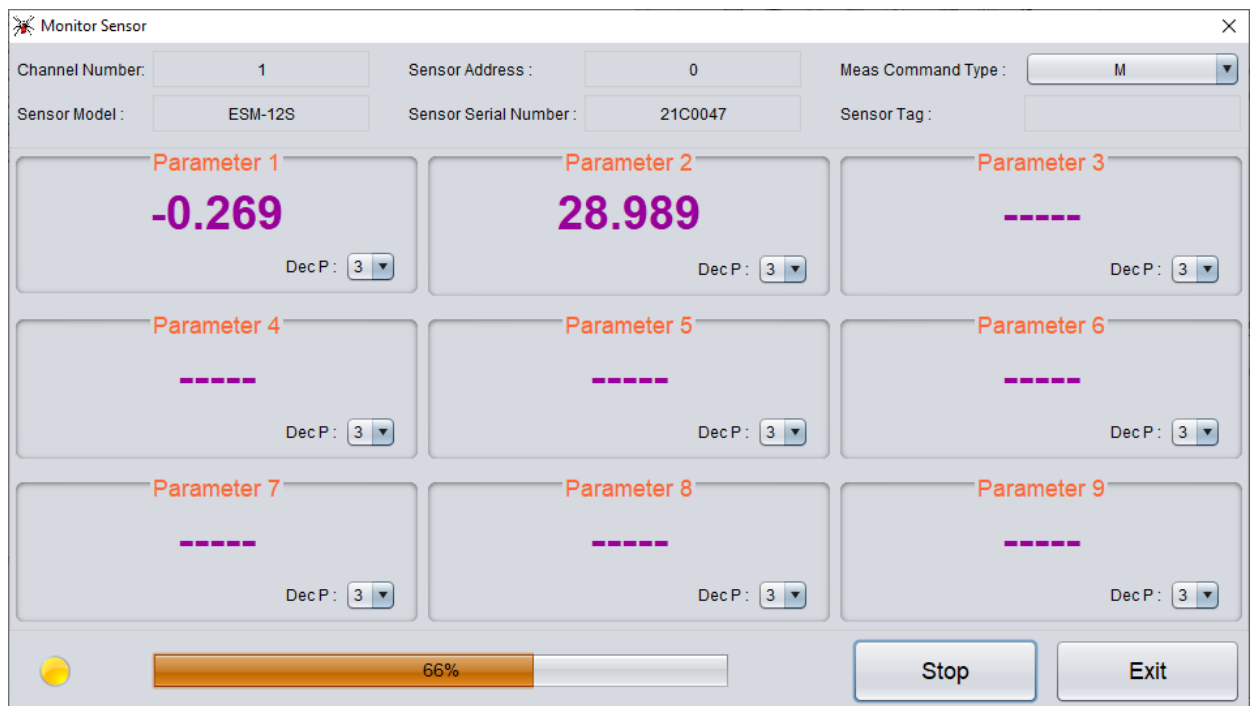

Figure 6-9 ESM-12S sensor readings
8. Press "Monitor Sensor" button. The screen as shown in figure 6-9 will appear, showing the values of settlement reading (Parameter 1) and temperature reading (parameter 2) of the sensor.